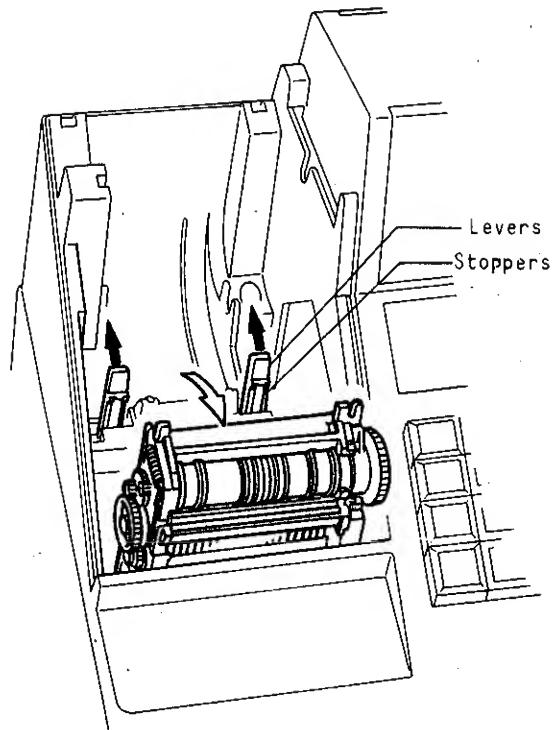

Fig. 6
2. Pull up the rear plastic edge of the printer (black-colored) to unlock the stoppers (white-colored) while pressing the plastic levers rear-ward (white-colored) on both sides of the Printer Holder that is fixed on the drawer unit. (One lever at a time will ease unclocking.) (Fig. 6)
3. Let the Printer Unit stand upright as shown in Fig.6. (Do not attempt to remove the unit entirely from the holder otherwise, the attached cables might be damaged.) The Ink Roller is set in the middle of the bottom of the unit.